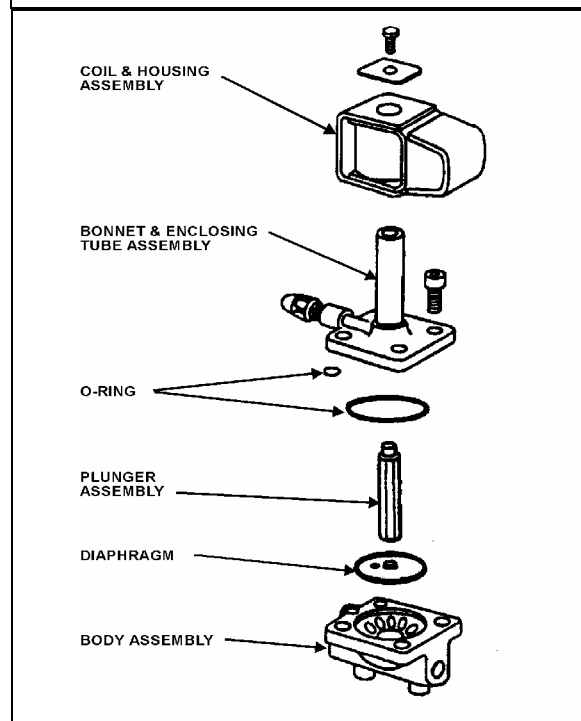

FIGURE 34: REFRIGERANT SOLENOID VALVE
3. Remove the four socket head screws which hold the body and bonnet together (Figure 34).